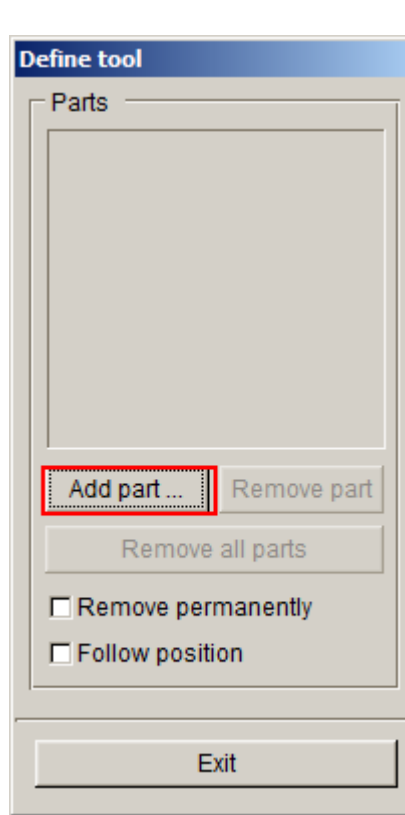

Figure 1.15 Tool definition
6. The Define Geometry dialog box is displayed. Click the Add part... button, as illustrated in Figure 1.15.